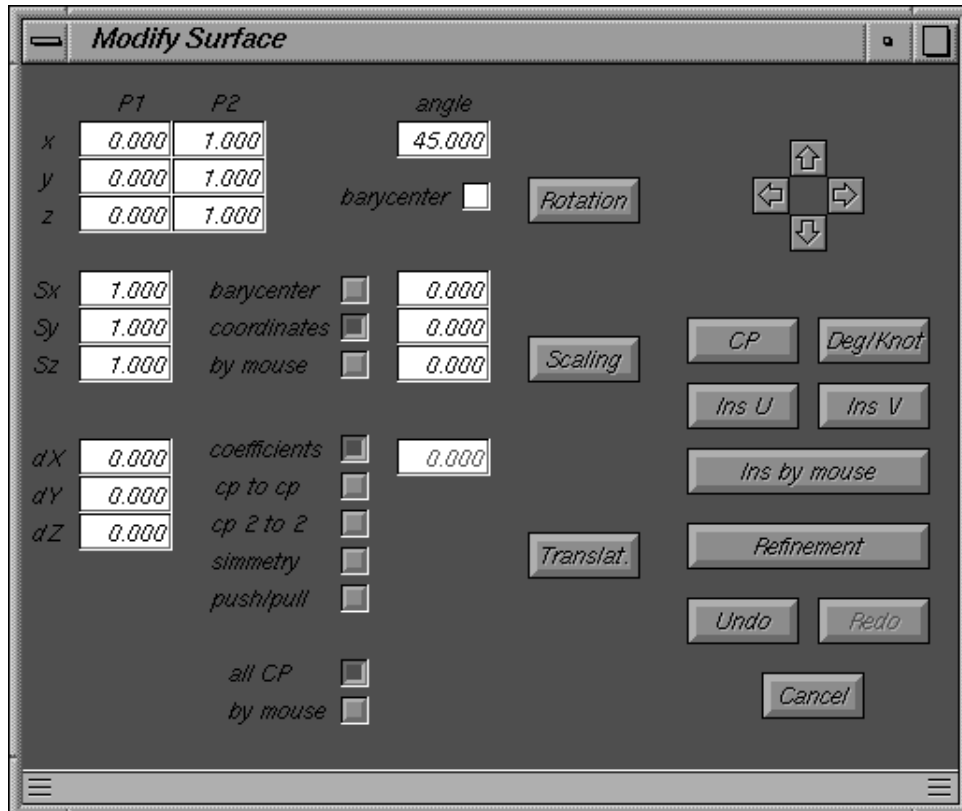

Figure 6.2: Modify Surface menu window
This button allows the user to change the shape of the active surface, or to move it into the 3D space. The window of fig. 6.2 opens; this contains three parts: geometric transformation, modify surface parameters and set COP.
- to modify the surface parameters we have (fig.6.2):